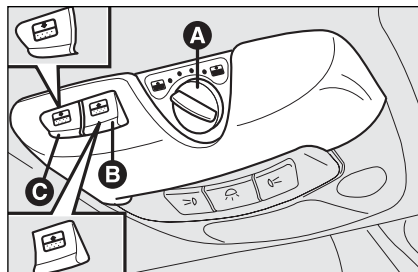

fig. 81
With blades and curtain open (knob **A**-fig. 81 on fifth click), blades closing is not affecting the curtain.
To open the curtain press button **C**-fig. 81.
To close the curtain press button **B**-fig. 81.
IMPORTANT Turning the ignition key to **STOP** after having operated one of buttons **B**-fig. 81 or **C**, the selected operation will be completed.
- ☐ turn knob **A-fig. 81** to “0” (fully closed);
In this case it is possible to inhibit the anti-crushing system by closing the roof (within 5 seconds from system activation), turning knob **A**-fig. 81 to **0** and keeping it pressed upwards until closing.